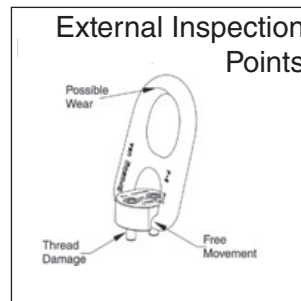

Figure 3
- Regularly inspect pivot hoist ring parts (Figure 3).